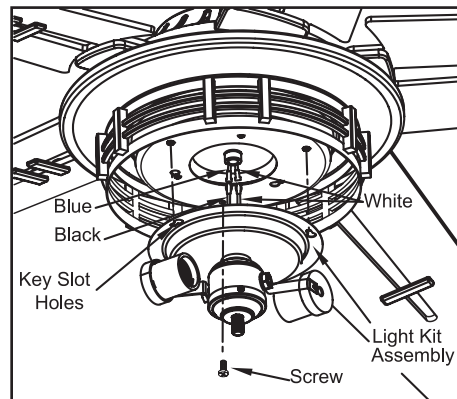

Figure 13
4. Remove one of three mounting screws on the switch cup (Figure 13).
10. Position the glass bowl over the threaded nipple (Figure 13).